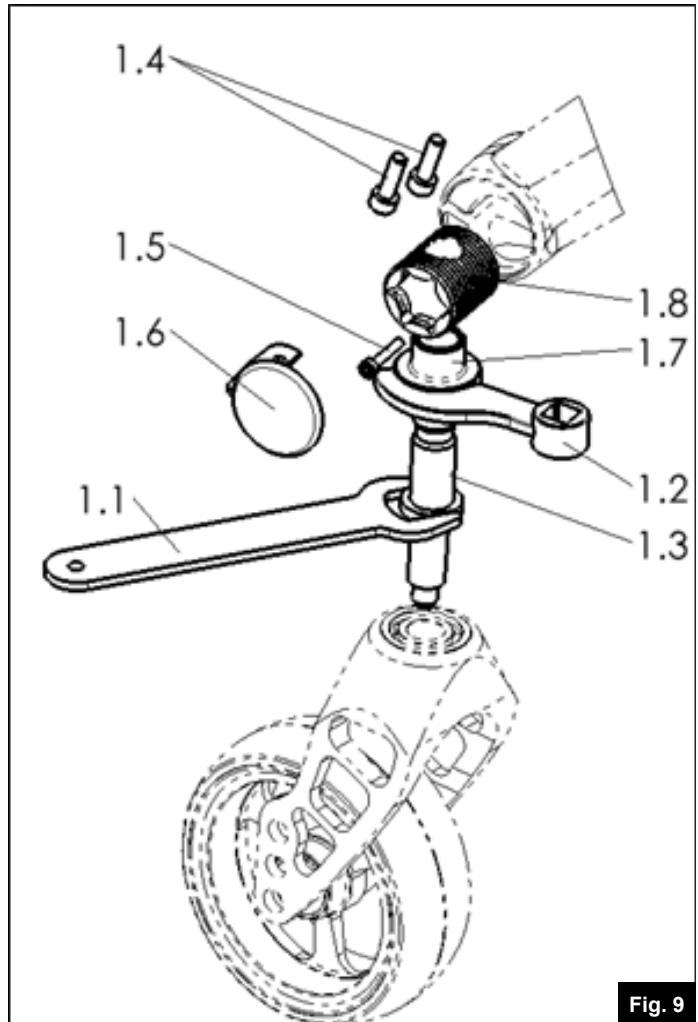

Fig. 9
- Remove the M6 screws shown in position 1.4 (Fig. 9) with an Allen key.
- Remove the cap shown in position 1.6 (Fig. 9)
- Remove the safety screws in position 1.5 (Fig. 9) with an Allen key.
- Open lock nut as shown in position 1.7 (Fig. 9) with tool kit 66009203-ET.
- Remove caster bolt in position 1.3 (Fig. 9) as shown in Position 1.1.
- Assemble the caster bolt in Pos 1.3 (Fig. 9)
- Lock the safety screws in Pos 1.5 (Fig. 9)
- Lock the cap shown in position 1.6 (Fig. 9)
- Lock the nut in Pos 1.7 (Fig. 9) using a torque of 28 Nm.
- Adjust the M6 screws shown in position 1.4 (Fig. 9) using a torque of 7 Nm.